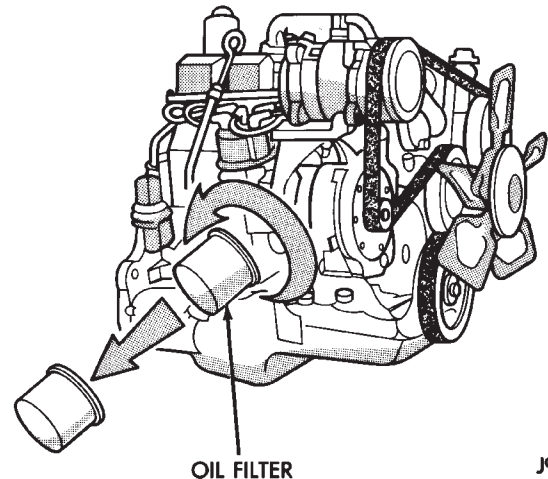

Fig. 8 Oil Filter—2.5L Engine
(1) Position a drain pan under the oil filter.
(2) Using a suitable oil filter wrench loosen filter.
(3) Rotate the oil filter counterclockwise to remove it from the cylinder block oil filter boss (Fig. 8).